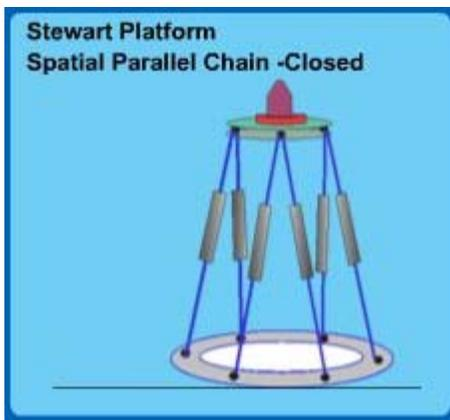

Figure5.2.1
- Stewart platform: Here 2 rings top & bottom are connected together through prismatic links and having ball & socket joint at bottom and hooks joint at top. Figure 5.2.1 beside. Stewart platform finds application in aircraft simulator where pilots are trained